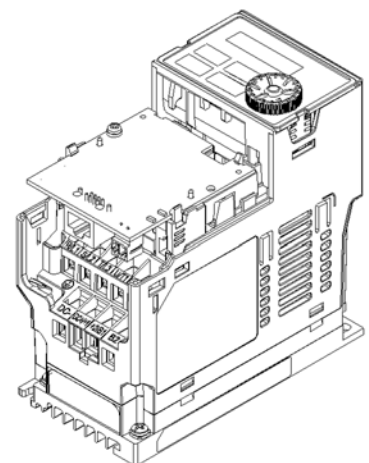

Figure 8-25
7. As shown in the Figure 8-25, assembly is completed.